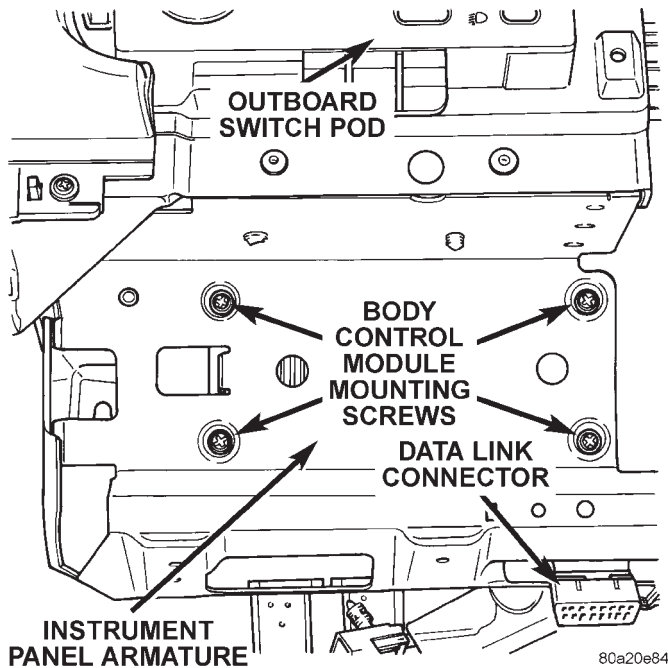

Fig. 11 Body Control Module Remove/Install
- (1) Remove the knee blocker/steering column cover as described in this group.
- (2) Remove the four screws below the outboard switch pod that secure the Body Control Module (BCM) to the instrument panel armature (Fig. 11).
- (3) Move the BCM towards the steering column far enough to unplug the three wire harness connectors.
- (4) Remove the BCM from the instrument panel.
- (5) Reverse the removal procedures to install.